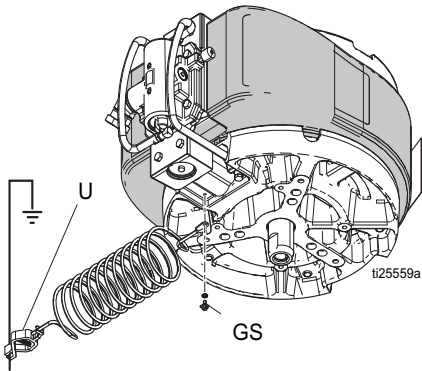

Fig. 2
- 1 *Pump*: use a ground wire and clamp. See Fig. 2. Verify that the ground screw (GS) is attached and tightened securely to the air motor. Connect the clamp (U) of the static ground cable (H) to a true earth ground. For a ground wire and clamp, order Part No. 244524.